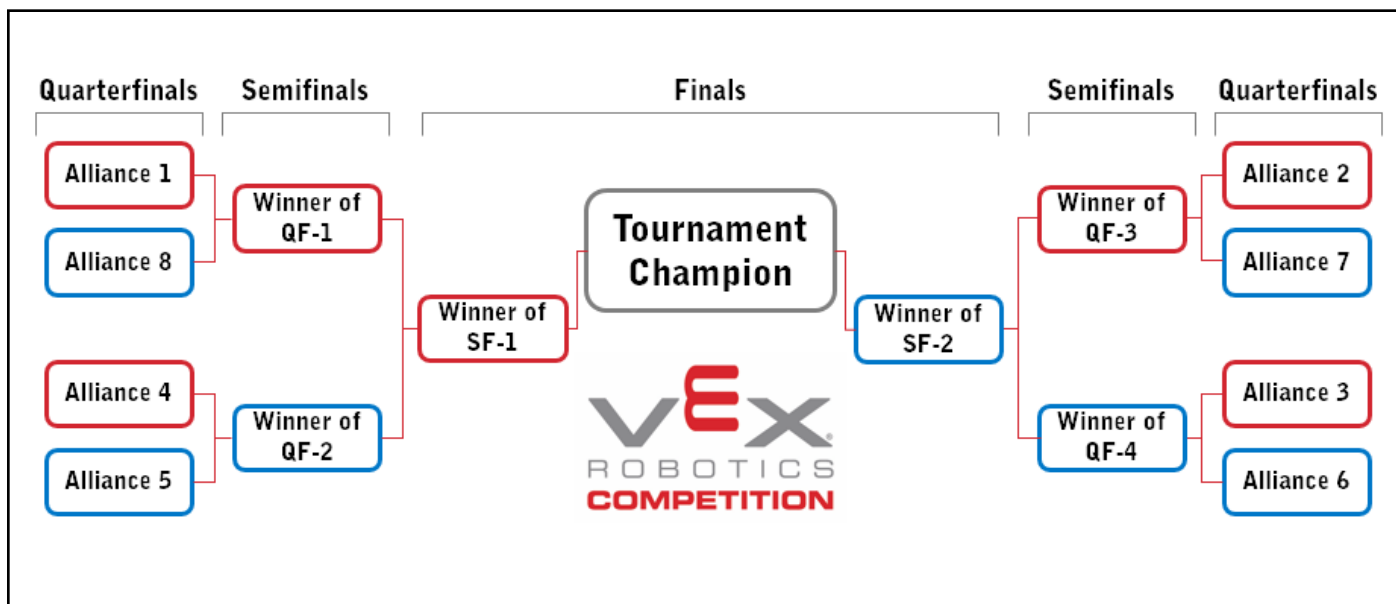

Figure T19-2: A 8-Alliance bracket
Thus, an eight (8) *Alliance* bracket would run as shown in Figure T19-2: